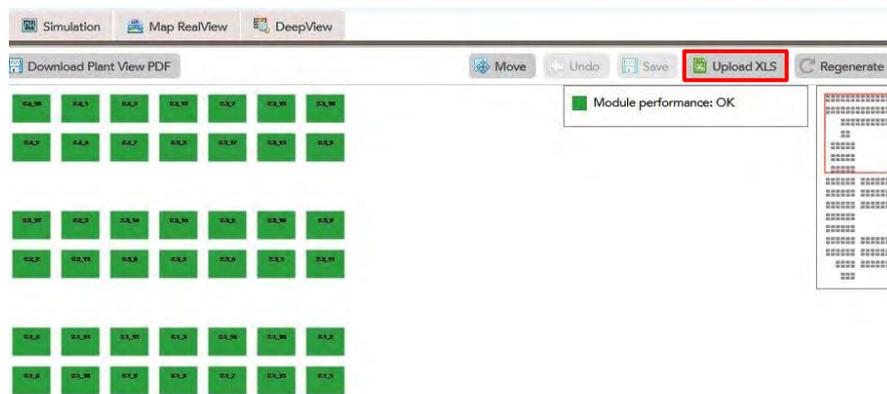

Figure 60: Click on „Upload XLS“ to upload the PlantView
- Click on the button „Upload XLS “(Figure 60) on the top right corner. Then choose and upload the excel-workbook, which contains the PlantView that was created by you.